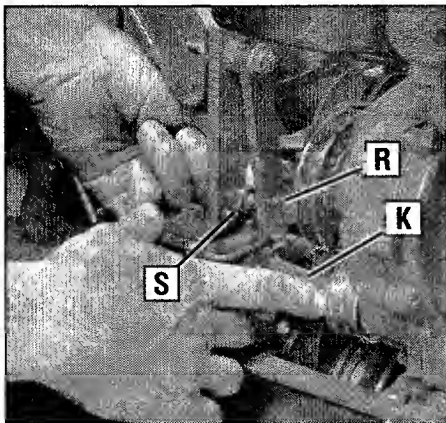

Figure 5-15: Installing clevis pin in inside hole of reverse adjustable link.
7. There are two holes in the reverse adjustable link (S, Figure 5-15). Push inward on the reverse idler arm (K) and install the clevis pin (R) through the **inner** hole in the reverse adjustable link (S) and out through the single hole in the reverse idler arm (K). Secure the clevis pin with the hairpin cotter.